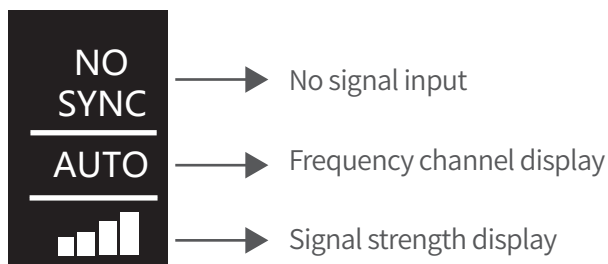
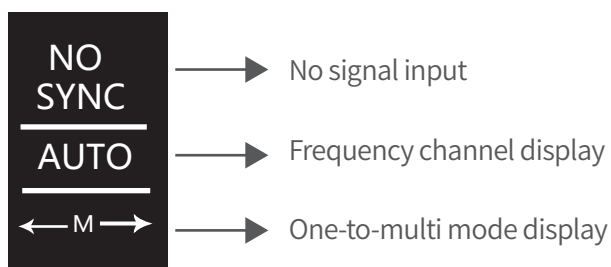

Fig. 1
Fig. 3
When no signal input, the transmitter is consistent with the receiver display content. See Fig. 1
When the transmitter has no signal input, see Fig. 3
- (1) Connecting SDI IN/HDMI IN interface of FLOW500 transmitter with SDI OUT/HDMI OUT interface of camera or video output device. Connecting SDI loop out interface of FLOW500 transmitter with SDI IN interface of monitor or switcher.
- (2) Connecting SDI OUT interface of FLOW500 receiver with SDI IN interface of monitor or switcher. When using one-to-multi mode, every SDI OUT interface of receiver should be connected with SDI IN interface of monitor or switcher.
- (3) Switch on both FLOW500 transmitter and receiver, “Power” indicator light up, OLED screen show “WAIT...” then jump to initial interface, see fig.1 or fig.3; Wait until “Link” and “Video” indicator light up, the transmitter and receiver have identifiable signal inputs and connected successfully. If the transmitter and receiver have identifiable signal inputs but fail to establish a connection, the "link" indicator will flash.
- (1) Connecting SDI IN/HDMI IN interface of FLOW500 with SDI OUT/HDMI OUT interface of camera or video output device. Connecting SDI loop out interface of FLOW500 transmitter with SDI IN interface of monitor or switcher.
- (2) When using one-to-multi mode, every SDI OUT interface of receiver should be connected with SDI IN interface of monitor or switcher.
- (3) Switch on both FLOW500 transmitter and receiver, every receiver should be switch on when using one-to-multi mode. “Power” indicator light up, OLED screen show “WAIT...” then jump to initial interface, see fig.1 or fig.3; Wait until “Link” and “Video” indicator light up, the transmitter and receiver have identifiable signal inputs and connected successfully, right push the joystick to “PREF” interface, see fig.11.
- (4) It is recommended to choose high quality mode for wireless devices under normal operating conditions, such as better environment, stronger signal, or more than one set of wireless devices under the same scene.
- (5) Wall through mode is recommended for wireless devices under complex operating conditions, such as poor on-site environments, high distance barriers and only 1-2 sets of wireless devices in the same scene.